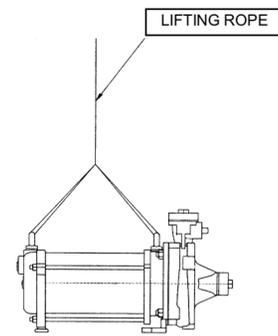

figure 1.1
1. **Handling :** When the entire pump is to be lifted in vertical direction, then it is recommended to lift the pump at the Lifting bolt by means of straps/ropes as shown in figure 1.1 If pump to be moved from one place to another place then it is recommended to lift the pump at mounting casing by means of hand.